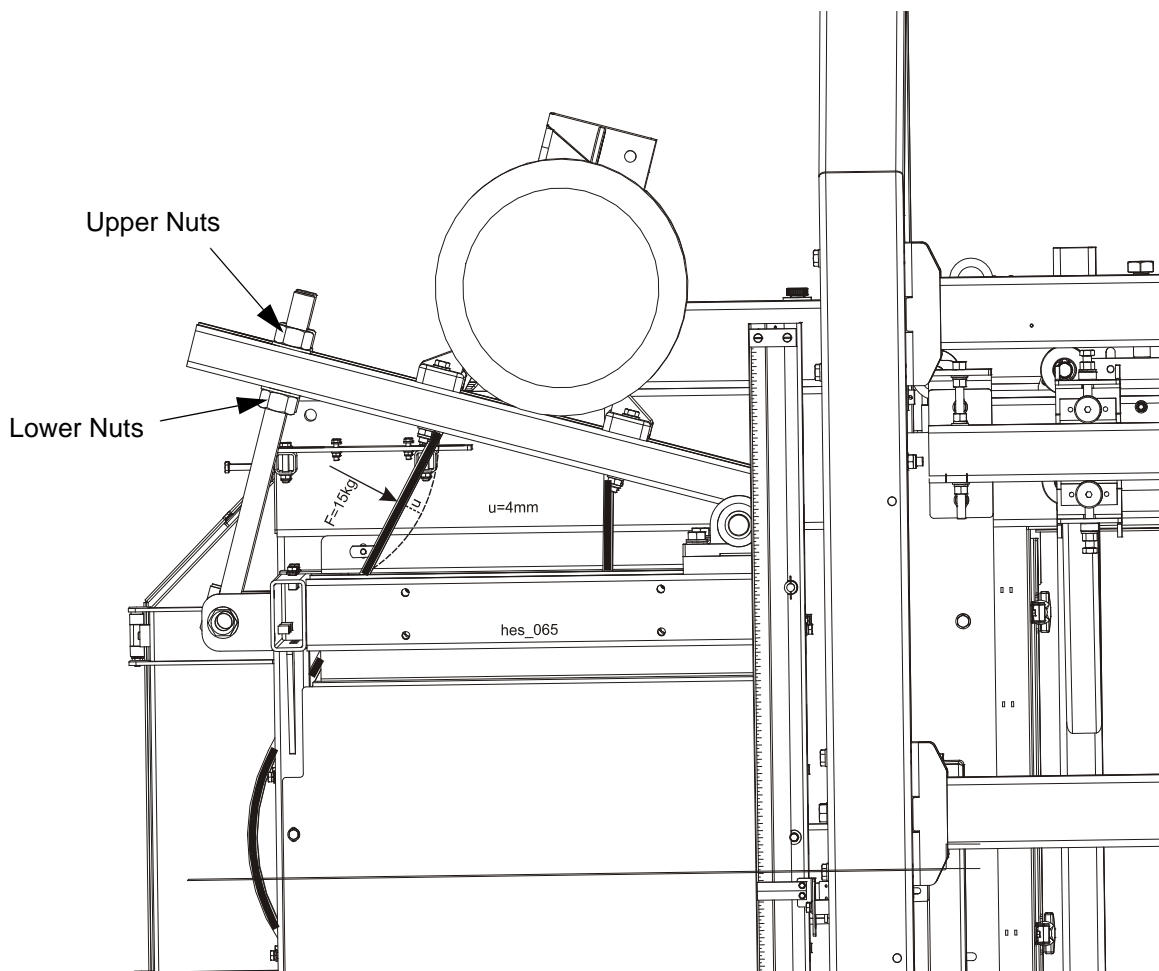

FIG. 4-5
**See Figure 4-5.** Adjust the drive belt tension using the nuts on the bolts supporting the motor weldment. To tighten the drive belt, loosen the upper nuts and tighten the lower nuts. To loosen the drive belt, first loosen the lower bolts and then tighten the upper bolts. The drive belt deflection in the place shown below should be 4mm (0,15") with a 15kg (33lb, 150N) force.